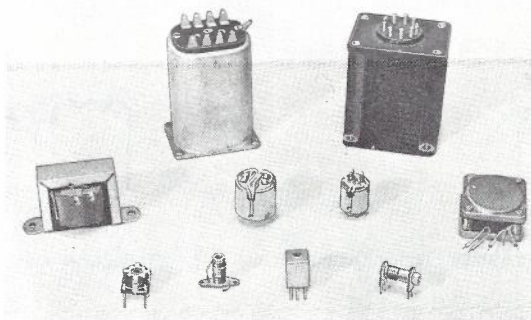

FIG. 26. TYPICAL INDUCTORS AND TRANSFORMERS.
5.5 INDUCTOR AND TRANSFORMER SHAPES. Fig. 26 shows a range of inductors and transformers. Inductors can often be distinguished by the number of terminals. As they have one winding, there are usually two terminals, although this is not always the case. A transformer has at least three terminals, and usually more.
The terminals or leads of the components can be seen in Fig. 26, allowing possible identification of each device.